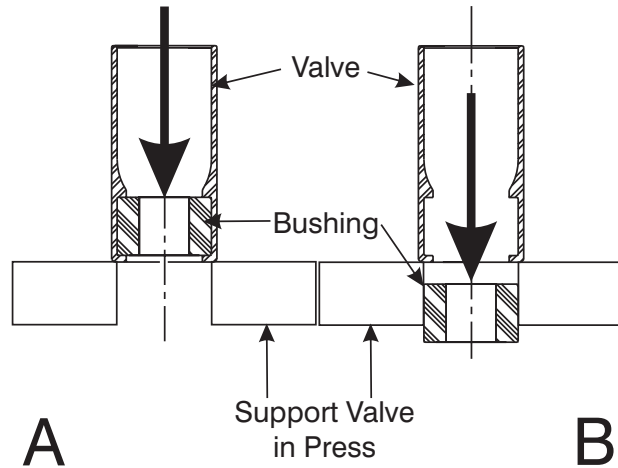

Figure 8-19. Press Bushing from Valve.
6. Refer to Figure 8-19-A, and block the assembled Valve (6) and Bushing (5) in the arbor press:
7. Press the Valve Bushing (5) from the Valve (6), as shown in Figure 8-19-B.